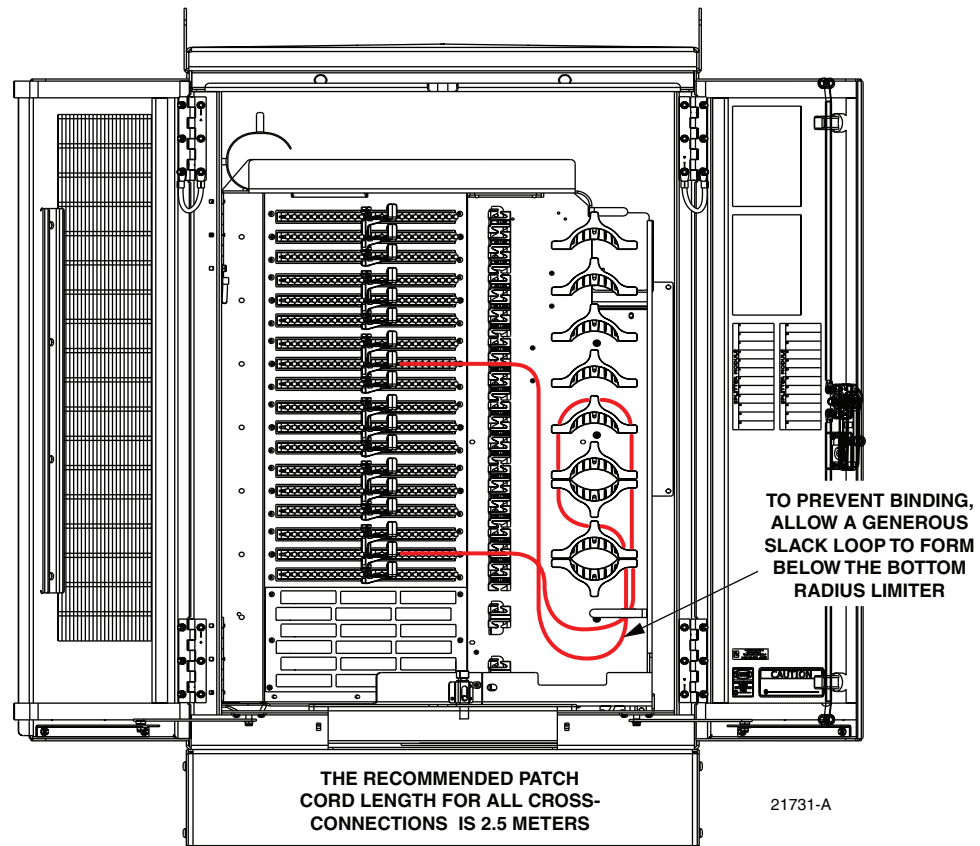

Figure 24. Cross-Connect Patch Cord Routing and Slack Storage - Typical
The connectorized ends of the feeder and distribution cables are terminated at the rear side of the connector panels. The terminated cable fibers are cross-connected using jumper patch cords as shown in Figure 24. The patch cords connect to the front side of the connector panels. Excess patch cord slack is stored using radius limiters. The recommended jumper patch cord length for all cross-connections is **2.5 meters**. Use the following procedure to route and connect the jumper patch cords:
4. Route the jumper patch cord as shown (see Figure 24) using the radius limiters on the right side of the cabinet to store any excess fiber slack.